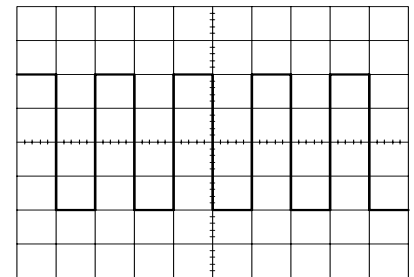

Figure 4-3
- Set the AC-DC-GND switch to the AC state. A waveform as shown in the figure 4-3 will be displayed on the CRT screen
- Adjust the ΔV POSITION and $\langle \rangle$ POSITION controls in appropriate positions so that the displayed waveform is aligned with the graticule and voltage(V_{p-p}) and period(T) can be read conveniently. The above are the basic operating procedures of the oscilloscope. The above procedures are for single-channel operation with CH 1. Single-channel operation with CH 2 can also be achieved in a similar manner. Further operation methods are explained in the subsequent paragraph.